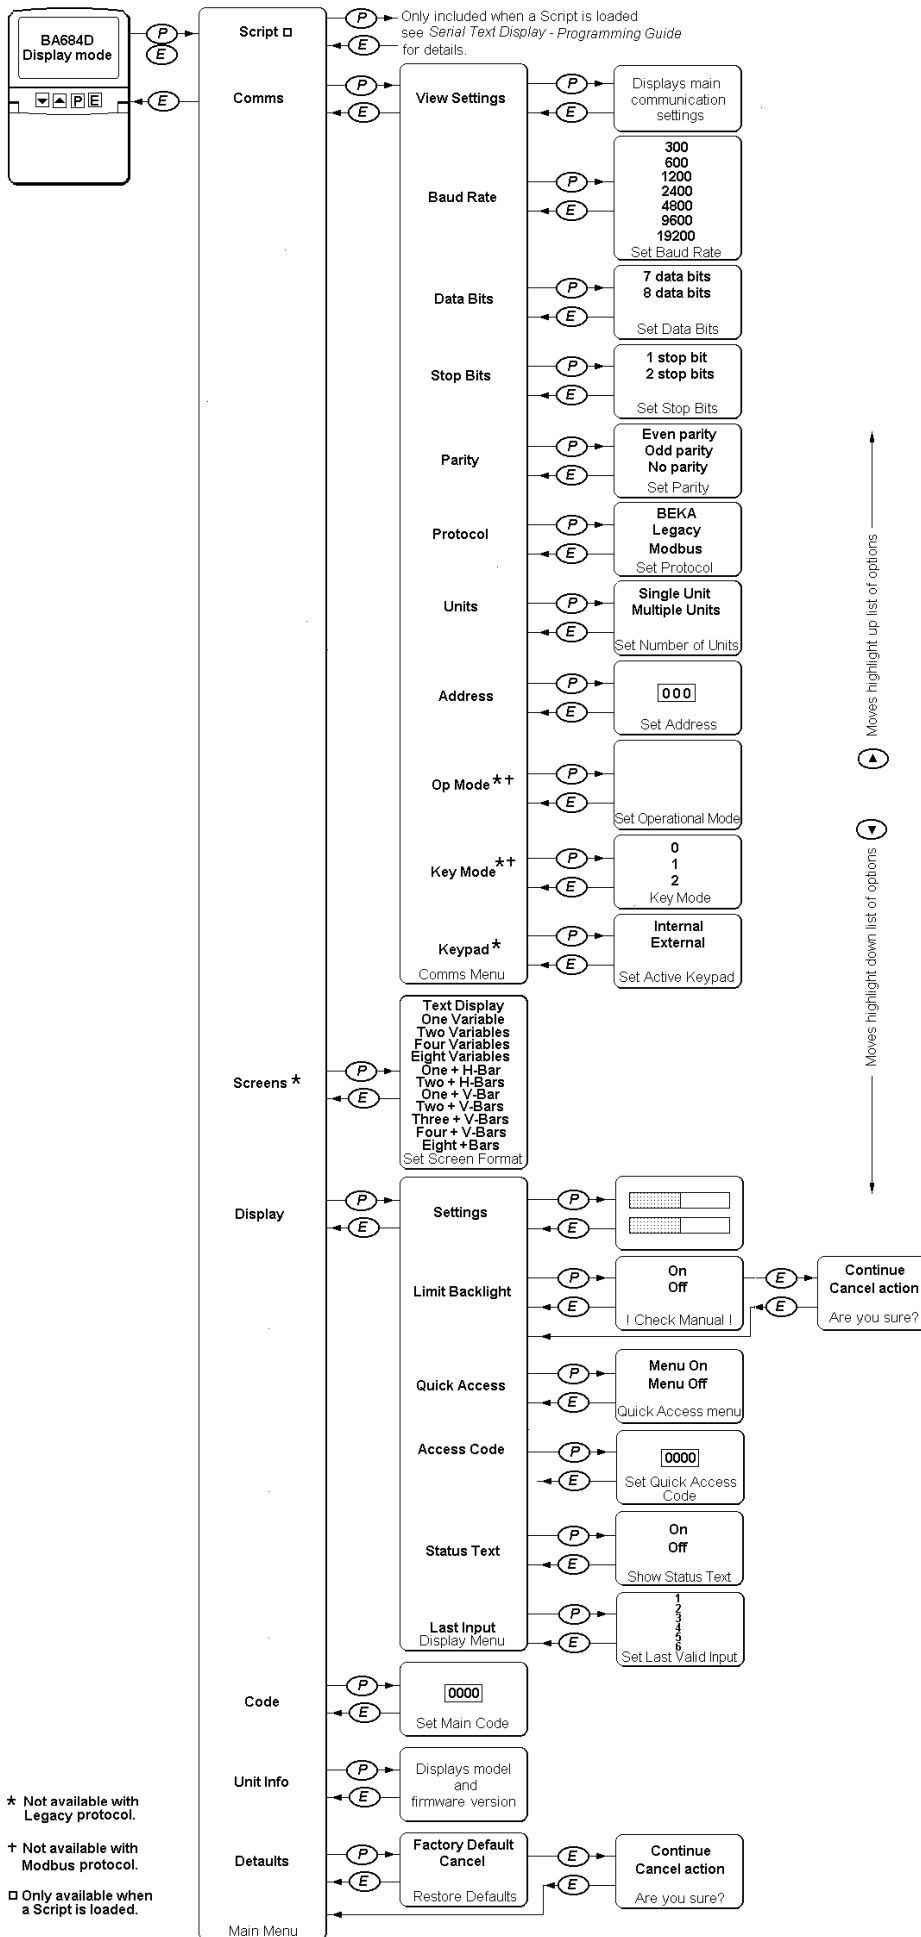

Fig 5 Structure of Configuration Menu
The BA684D is configured via the four front panel push-buttons. All the configuration functions are contained in an easy to use menu shown in Fig 5. Where necessary the sub-menus contain on-screen prompts to guide the user through each adjustment.
This section provides a brief explanation of each configurable function and should be read in conjunction with Fig 5.
5. To set the instrument's basic communications parameters enter the configuration menu by pressing the *P* and *E* push-buttons simultaneously. Fig 5 shows the menu structure and navigation.